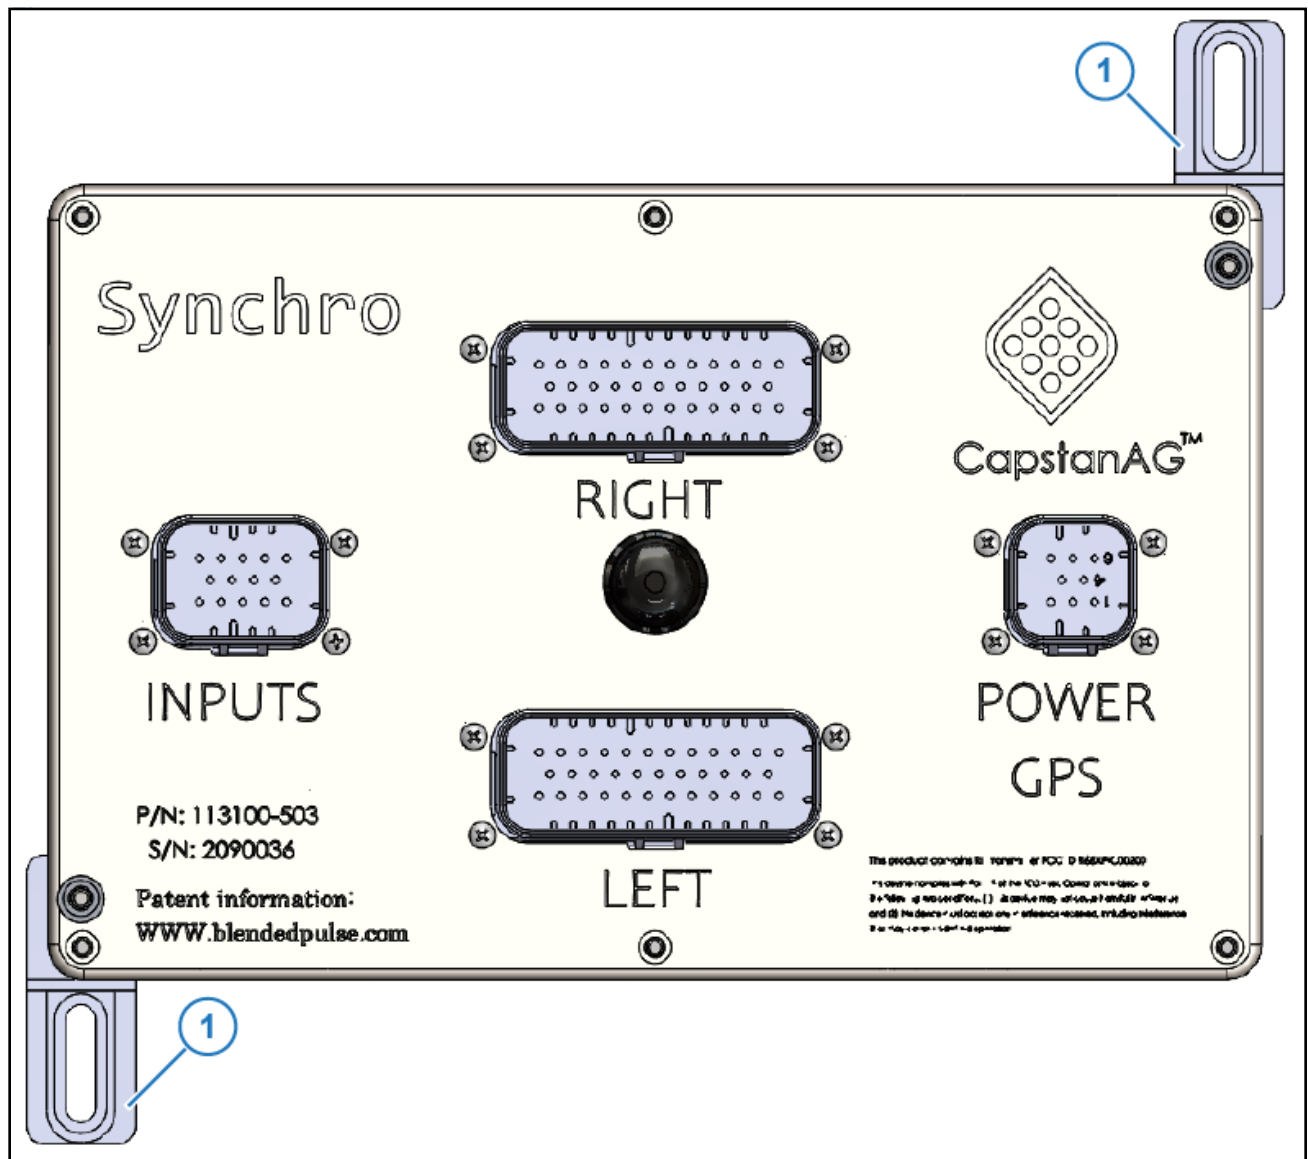

Figure 7: Controller
2. If only the case mounting tabs (Figure 7, Item 1) will be used to mount the controller, use the supplied hardware.